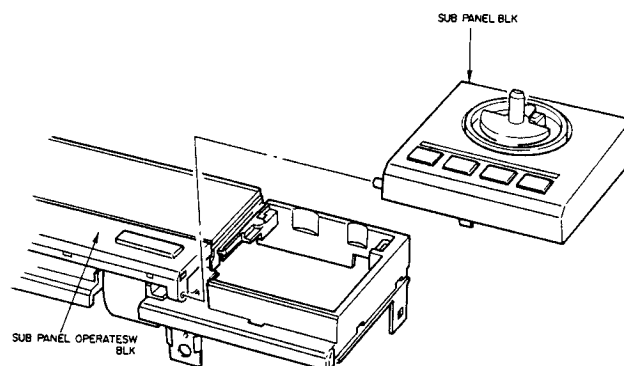

Fig. 4-4
- 5) Remove the SUB PANEL BLOCK from the Front Panel as shown in Fig. 4-4.